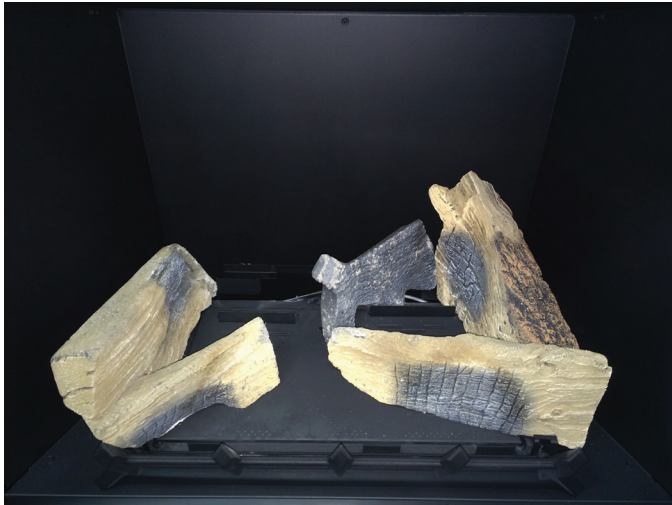

Figure 28.
- Place the left middle log #5 with the C channel locking the front and middle log in place. Figure 28